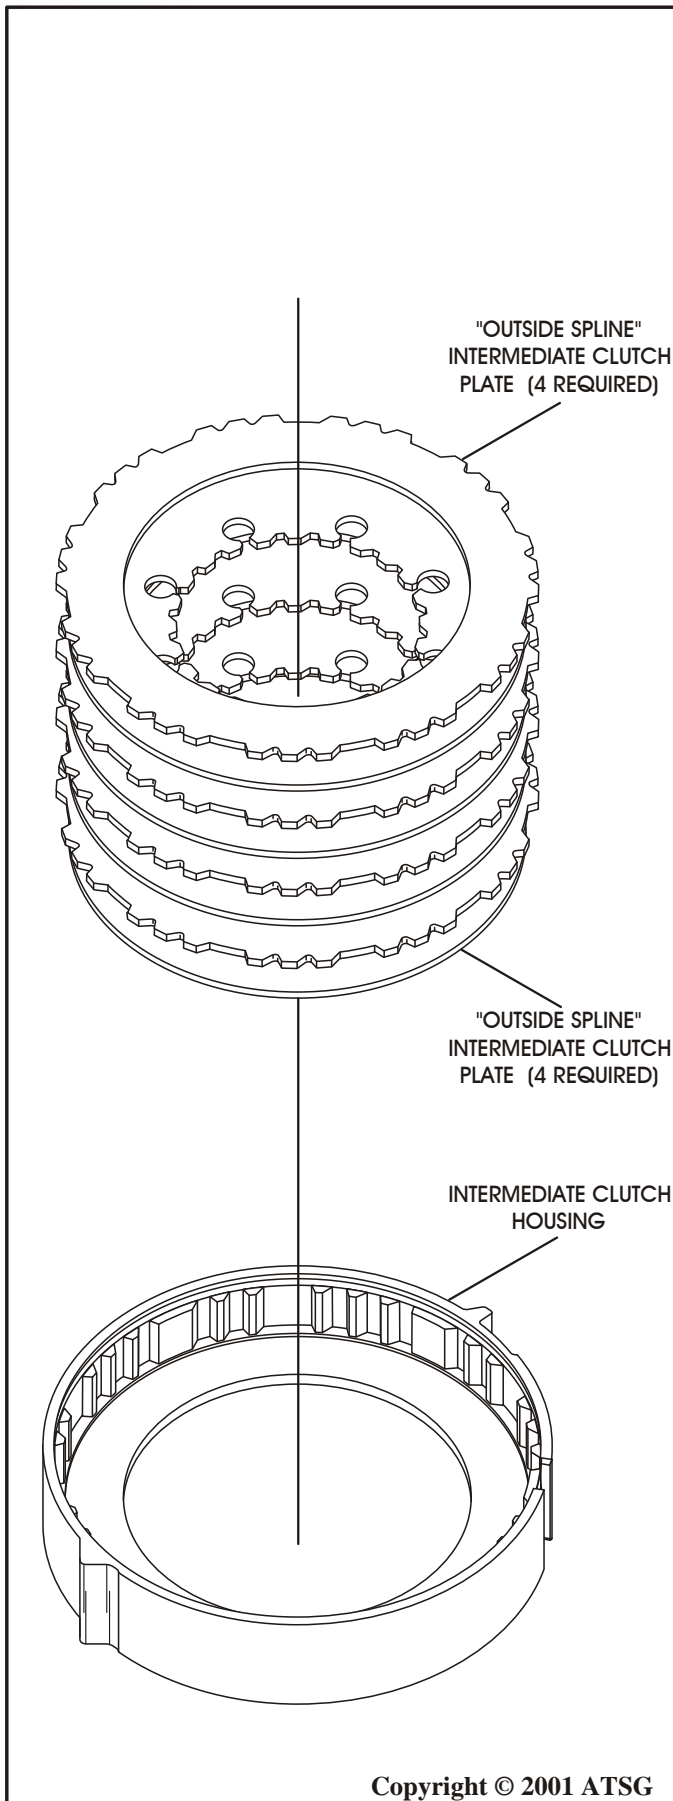

Figure 113
6. Install the intermediate clutch plates into the intermediate clutch housing beginning with an inside spline plate first, with the lining facing down, as shown in Figure 113.
7. Now alternate with outside spline plates, with the lining facing down, as shown in Figure 113, until you have installed four of each plate.
8. The last plate in should be an outside spline plate, with the lining facing down, as shown in Figure 113.